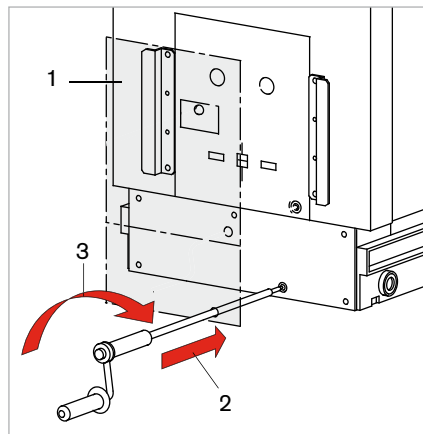
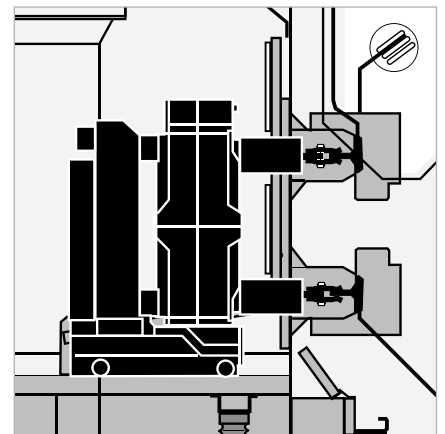

Fig. 45
Fig. 46
1. Open cover in panel (Fig. 45, item 1) and insert crank (2).
2. Turn crank clockwise (3) until the truck has been racked in. Remove crank.
3. Check position of the truck (Fig. 46) through the inspection port.